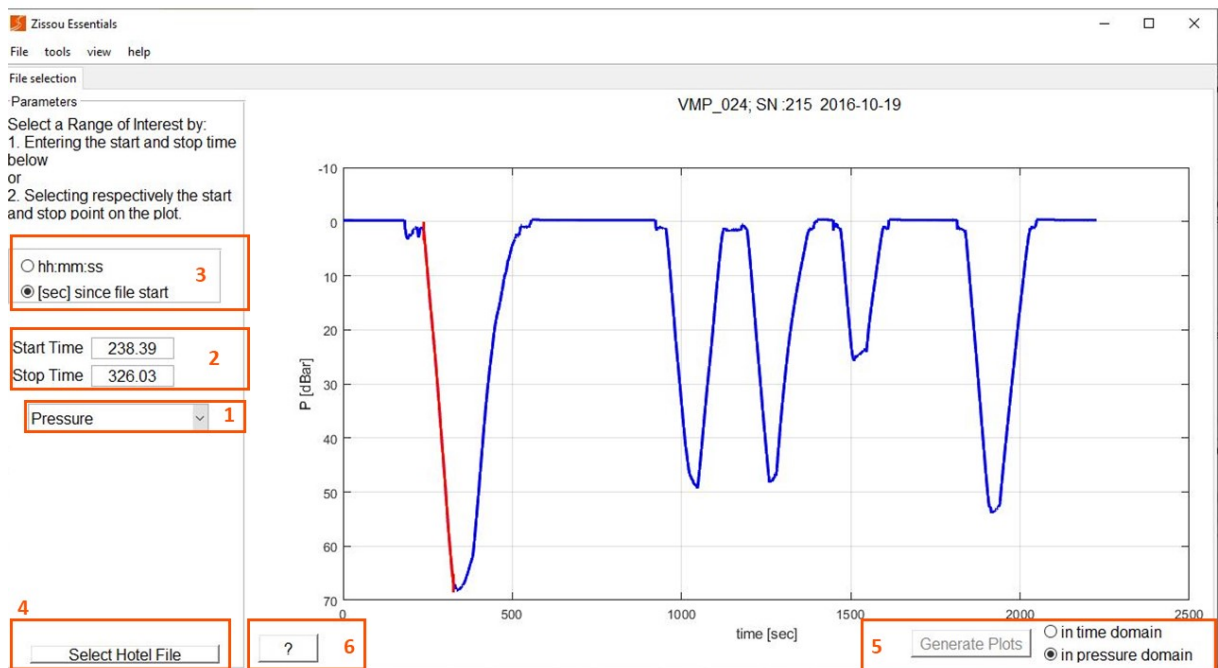

Figure 16: Plot of the pressure data of a VMP instrument as a function of time for profile selection
The software, after your data has been converted to physical units, provides a time-domain visualization of all the sensors on your instrument. Pressure is shown by default, but the data from a different sensor can be displayed by selecting its name from the drop-down menu (Figure 16, item 1). The time-domain plots are provided to assist you with the selection of a range of interest. To visualize your data further, you must select the segment of your data that you wish to inspect. Figure 16 shows an example where the first profile has been selected.
The drop-down menu (Figure 16, item 1) enables you to change the plot to a different sensor. This may be useful to confirm your selection.
As an alternative to selecting the range on the graph, you can also manually enter the start and stop time of your range of interest (Figure 16, item 2). You can additionally select the time convention for your choice *i.e.* in seconds since the start of the file or in hours:Minutes:Seconds using the radio button (Figure 16, item 3).
If you are displeased with your selection, you can re-select the bounds of the selection on the graph directly or you can press the “**cancel selection**” (Figure 16, item 4) and select again.
You can toggle this option with the radio button (Figure 16, item 5).